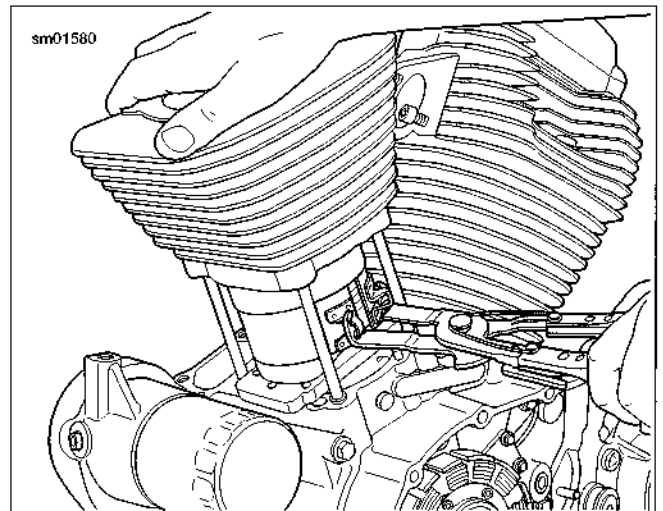

Figure 3-67. Installing Cylinder Over Piston
9. See Figure 3-67. Compress the piston rings using PISTON RING COMPRESSOR (Part No. HD-96333-51E).